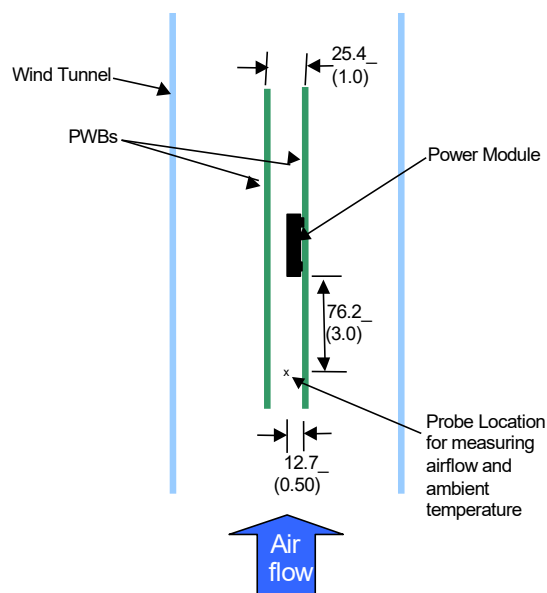

Figure 28. Thermal Test Setup.
Power modules operate in a variety of thermal environments; however, sufficient cooling should always be provided to help ensure reliable operation. Considerations include ambient temperature, airflow, module power dissipation, and the need for increased reliability. A reduction in the operating temperature of the module will result in an increase in reliability. The thermal data presented here is based on physical measurements taken in a wind tunnel. The test set-up is shown in Figure 28. The preferred airflow direction for cooling the module and the thermal reference points, Tref used in the specifications are shown in Figure 29. For reliable operation the temperatures at these points should not exceed 120°C (IC700) and 115°C (C702). The output power of the module should not exceed the rated power of the module ($V_{o,set} \times I_{o,max}$). Please refer to the Application Note “Thermal Characterization Process for Open-Frame Board-Mounted Power Modules” for a detailed discussion of thermal aspects including maximum device temperatures. Increased airflow over the module enhances the heat transfer via convection. The thermal derating of figures 2, 8, 14 and 20 show the maximum output current that can be delivered by each module in the indicated orientation without exceeding the maximum Tref temperature versus local ambient temperature (TA) for several air flow conditions. The thermal derating curves were generated using a 12 layer evaluation board with 3oz copper in inner layers and 2 oz in outer layers